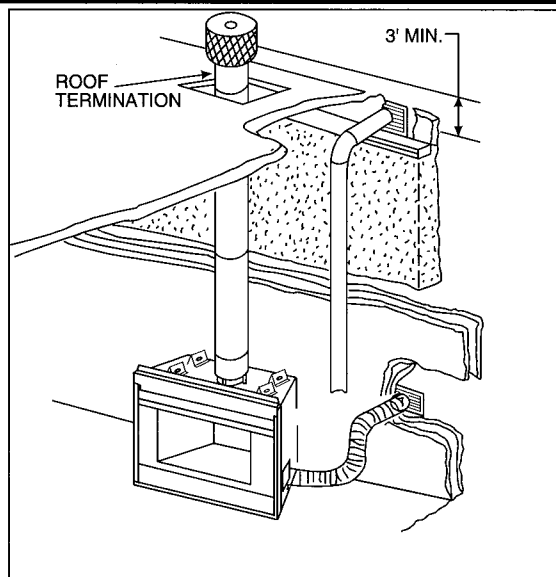

Figure 18
STEP 8 - Installing the Outside Air (OA) Kit (Recommended)
The automatic outside air control and door are installed in the finished unit. The connections from the unit to the outdoors are included in the kit marked AK19, which is shipped with the unit. A three (3) foot minimum height difference must be maintained from the top of the roof termination to the outside combustion air inlet (see Figure 18). Be sure to check vent height requirements for the firebox before attempting any basement location. The air inlet should be of sufficient height to prevent snow or other materials from blocking it. The vent inlet must be connected to an air supply outside of the building and must not exit higher than the building soffit.